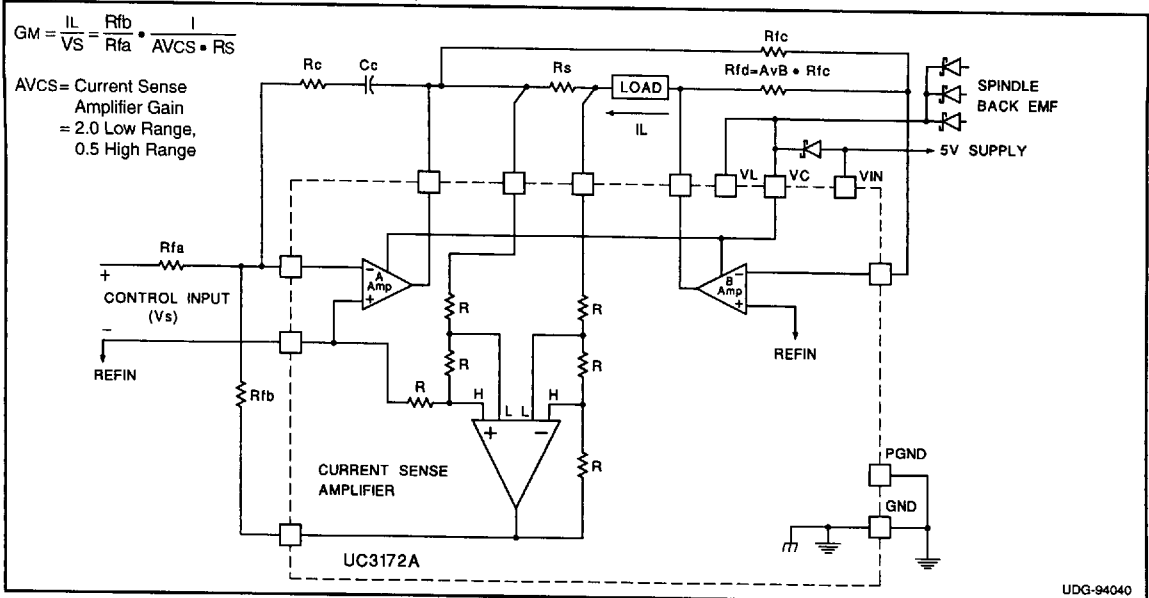

Figure 1. Typical Application
The following is a simple design flow that can be used to configure the UC3172A or UC3173A Full Bridge Power Amplifiers as shown in Figure 1.
- E. The normal configuration for compensation of the power amplifier is shown in Figure 1. A simple RC network, R_{CC} , around the A amplifier is all that is required.
In the closed loop transconductance amplifier, the A amplifier operates at the highest noise gain. Noise gain is a measure of the feedback ratio at which the amplifier is operating. For the configuration of the A amplifier in Figure 1, the noise gain is given by the impedance ratio of the RC-CC series network, to the parallel combination of R_{FA} and R_{FB} . For the A amplifier to operate at its expected closed loop gain, the noise gain at any frequency must not exceed its Gain Bandwidth Product (GBW) divided by that frequency. Applying this to the expression above will yield a result for the maximum 3dB bandwidth that can be achieved for a given configuration.